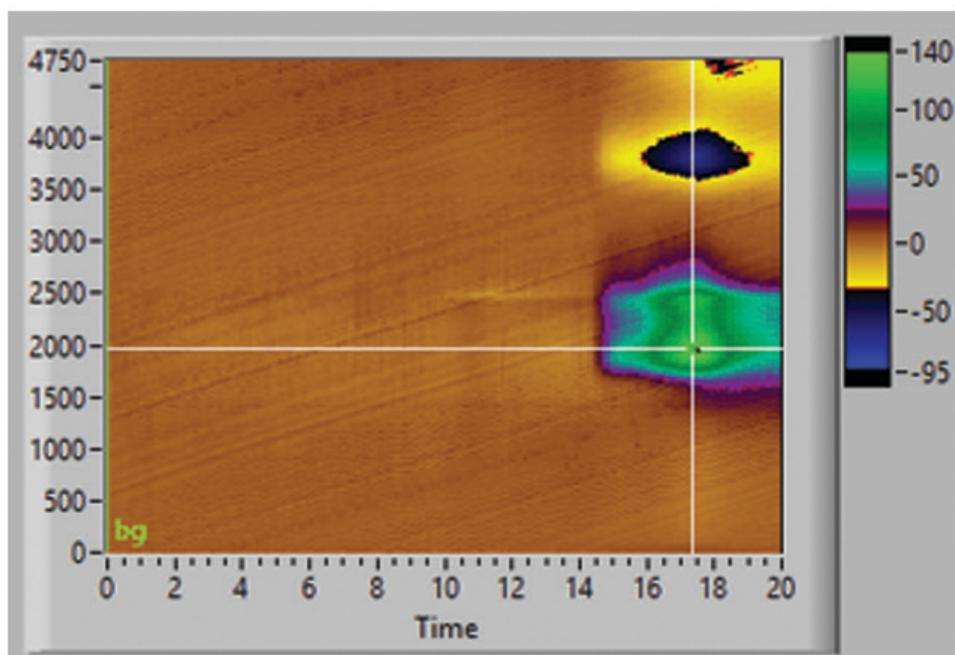

Figure 4-11. FSCV of 5-Hydroxytryptophan using Pine Research Flow Cell
5. Observe the running color plot in HDCV. Approximately 1 s after injection, the electrochemical response of the sample will be apparent on the color plot (see: Figure 4-11).